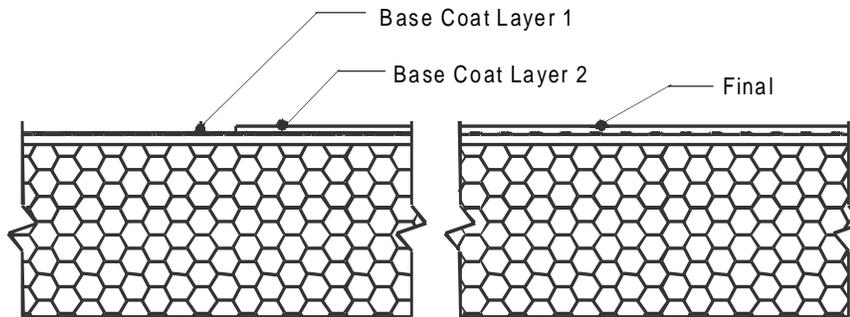

Figure 7
- 8.5.1.2.(3) Allow the base coat mixture to take up until firm to the touch. Trowel a second tight coat of the base coat mixture over the first coat to **fully cover** the reinforcing mesh - Figure 7. The result should be such that the reinforcing mesh is approximately centered within the base coat thickness. Do not allow the first pass to completely dry prior to the second pass application or an excessive amount of base coat mixture will be necessary to fully coat the wall surface.